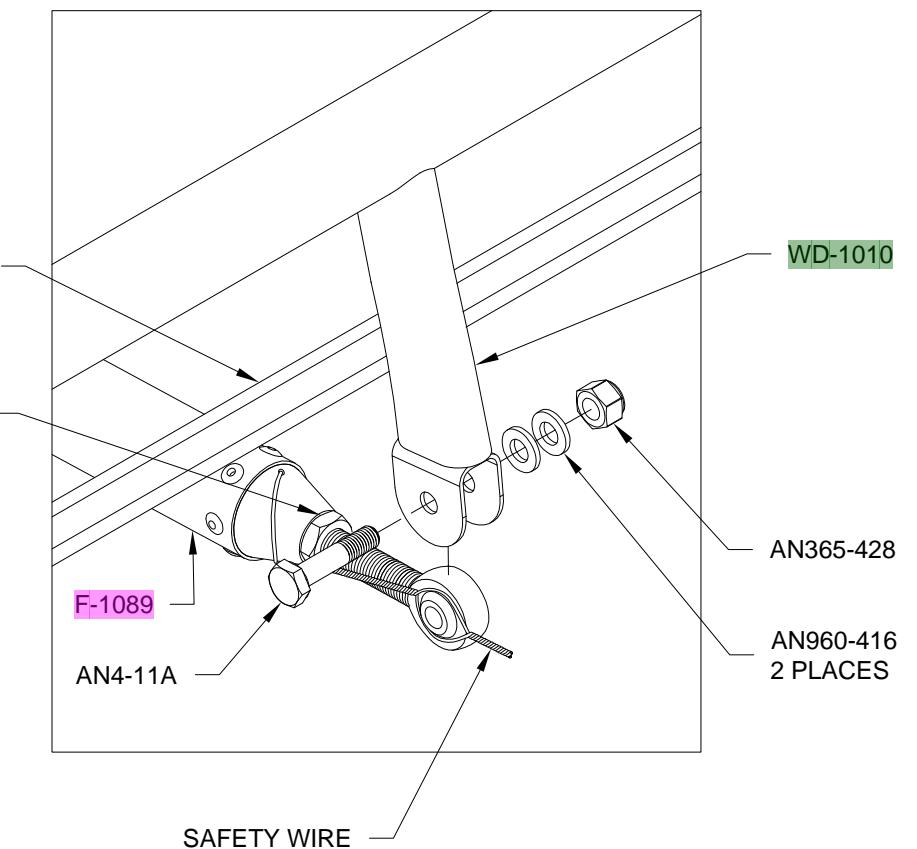

FIGURE 3: ELEVATOR PUSHROD (FWD) INSTALLATION
Step 3: Bolt the **F-1089** Elevator Pushrod Assembly to the **WD-1010** Control Column using the hardware shown in Figure 3. The loop in the safety wire goes around the bearing, passing between the rod end housing and the **WD-1010** Control Column clevis and is captured by the AN4 bolt as shown in Figure 3. The safety wire should not interfere with anything at this connection.